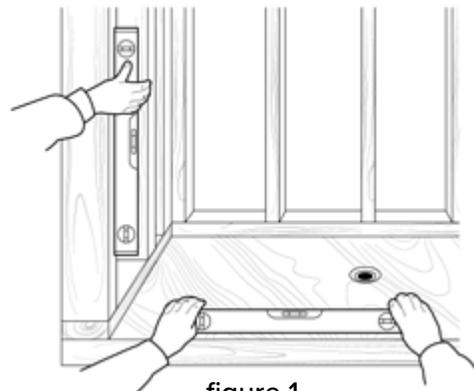

figure 1
- Verify all rough-in dimensions. If fire-rated framing pocket is required, approved finish material must be in place prior to unit installation to meet fire safety requirements of local building code and/ or FHA/ HUD Minimum Property Standards. (see figure 1)